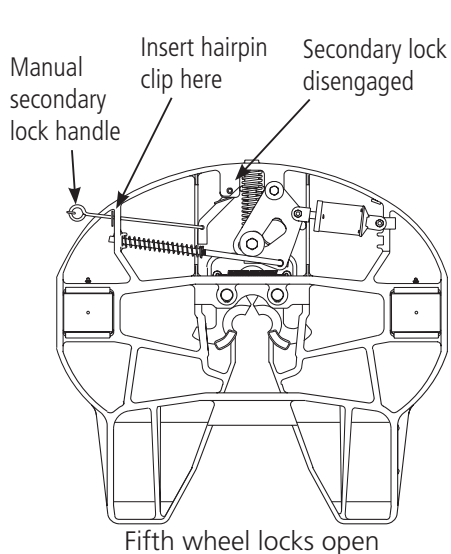

FIGURE 1
2. Make sure the secondary lock is disengaged. (See **Figure 1**).